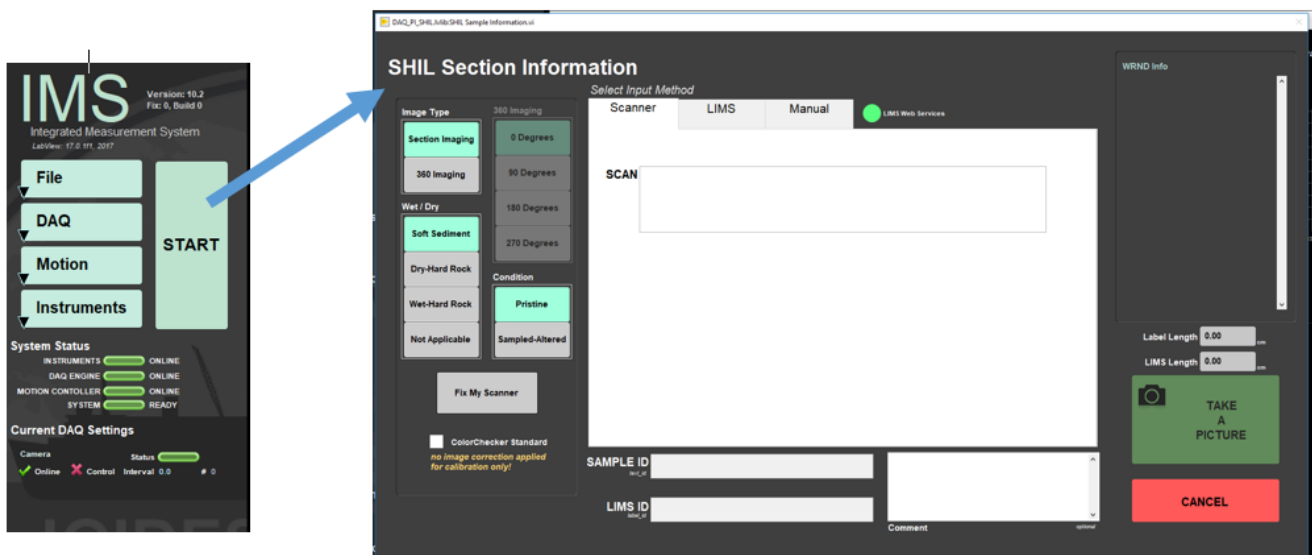

Figure 9. Select SHIL Section Information window
1. Click the green **Start** button in the **IMS Control** panel (Figure 9).